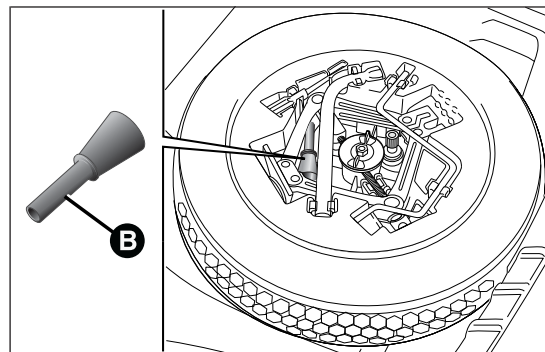
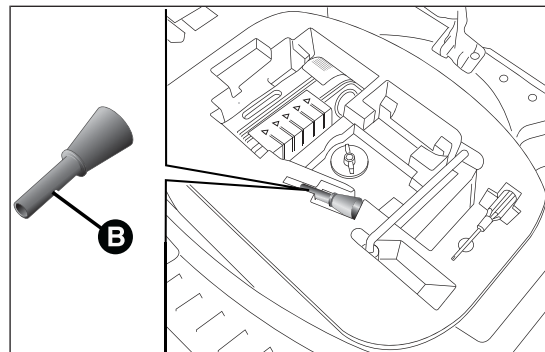

fig. 83
fig. 84
- ☐ open the luggage compartment and take adapter B located in the tool box (versions equipped with space-saver wheel - for versions/markets, where provided) fig. 83 or in the Fix&Go Automatic container (versions equipped with Fix&Go Automatic) fig. 84;